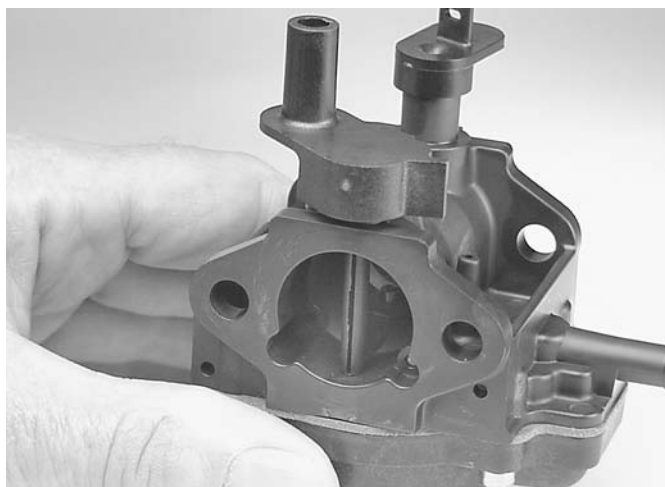

Fig. 55
14. Install the choke shaft into the carburetor body as shown in figure 55.